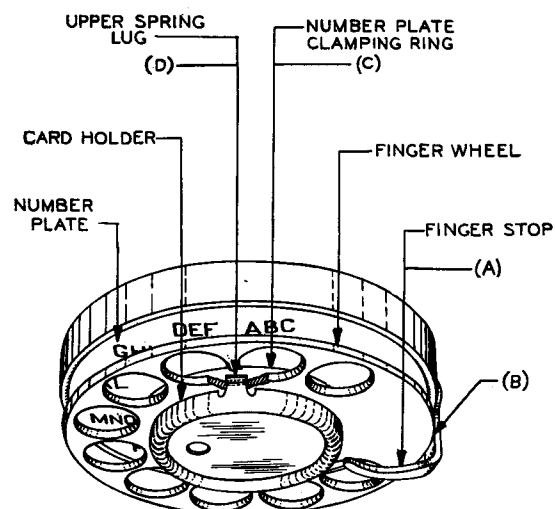

Fig. 5 - General External Features of Dials Equipped With Metal Fingerwheel
(a) Fig. 5(A) — The clearance between the *metal* fingerwheel and the underside of the finger stop at all points when the digit 0 is dialed shall be
(c) Fig. 5(B) and 6(B) — The clearance between the periphery of the fingerwheel and the vertical portion of the finger stop at all points when the digit 0 is dialed shall be
***2.09 Tightness of Number Plate:** Fig. 5(C) and 6(C) — The number plate shall be held securely by the number plate clamping ring.
(b) Fig. 5(D)—The tip of the upper spring lug on the card holder shall clear the number plate clamping ring at all points during rotation of the dial.